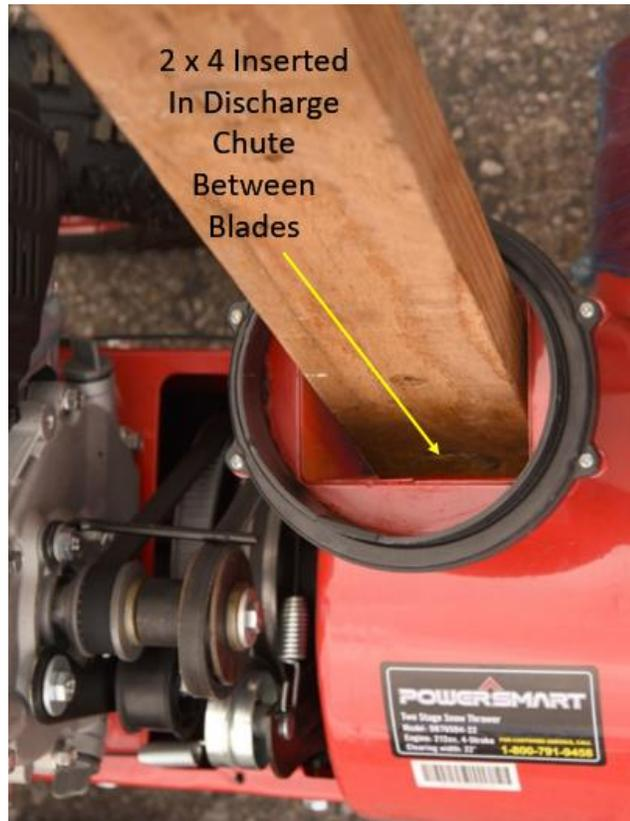

Figure 6. A 2 x 4 (shown) or stout metal rod inserted in the discharge chute will block the impeller from turning so the bolt can be tightened.
Step 3: Insert a wood 2 x 4 or stout metal rod into the discharge chute of the snow blower, as shown in Figure 6, and turn the pulley (shown in Figure 7) by pulling upward on the pulley belt to turn the pulley clockwise until the wood or rod is secured against the edge of the snow blower chute and blocks the impeller from moving any further, as shown in Figure 8.